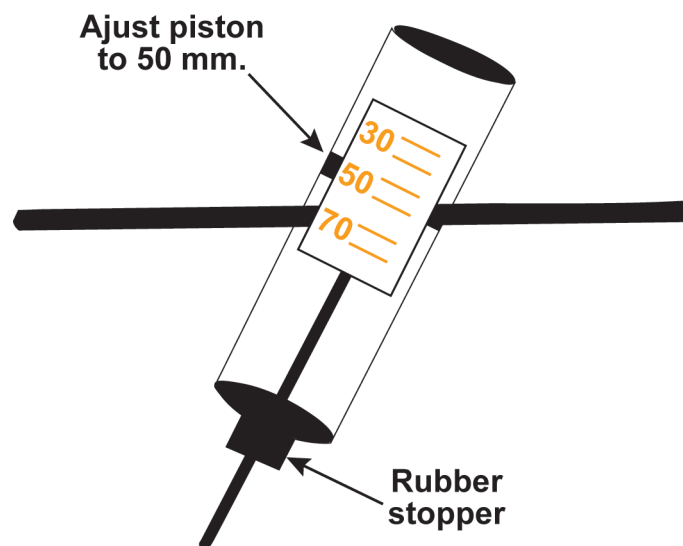

Figure 13
- ❑ 6. Adjust the rubber stopper until the top of the spring is positioned at 50 mm. See Figure 13.